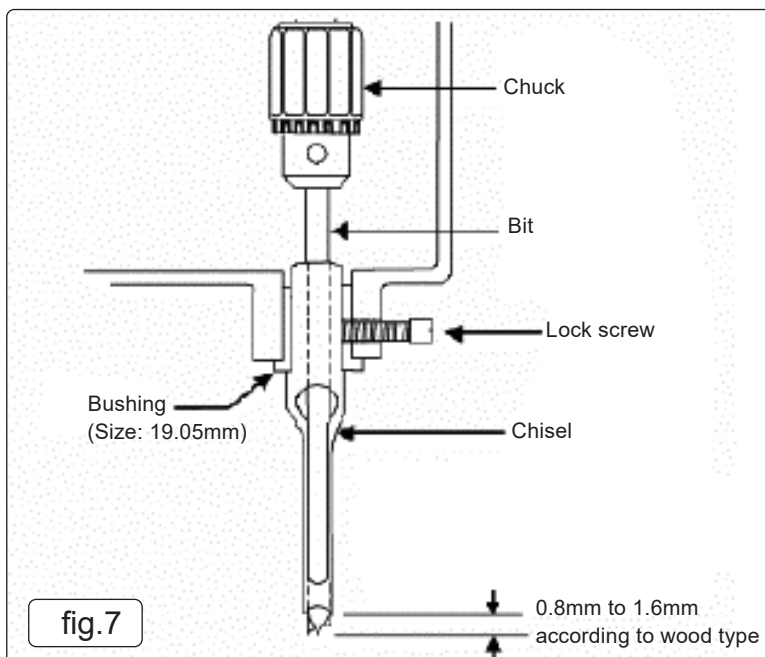

fig.7
5.4.1. Remove the access cover (fig.1.E) and loosen lock screw (fig.7).